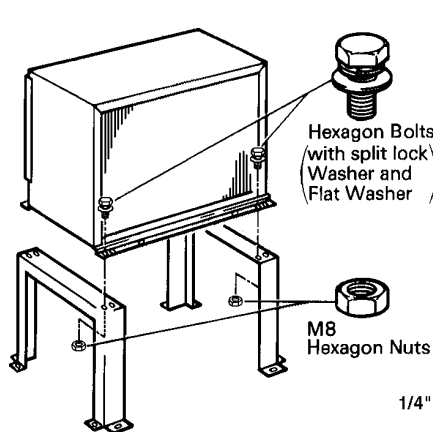

Fig. 5
- 1) Secure the Legs to the condenser unit with eight M8 x 16 mm Hexagon Bolts and M8 Nuts as shown in the illustration. See Fig. 5.